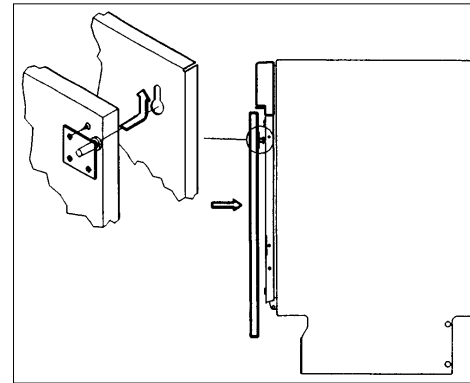

fig. 16
- Attach the panel to the door of the dishwasher by pressing the upper pins into the slots of the plastic section. Slide the panel up a little, and attach the underside as indicated in fig. 16.